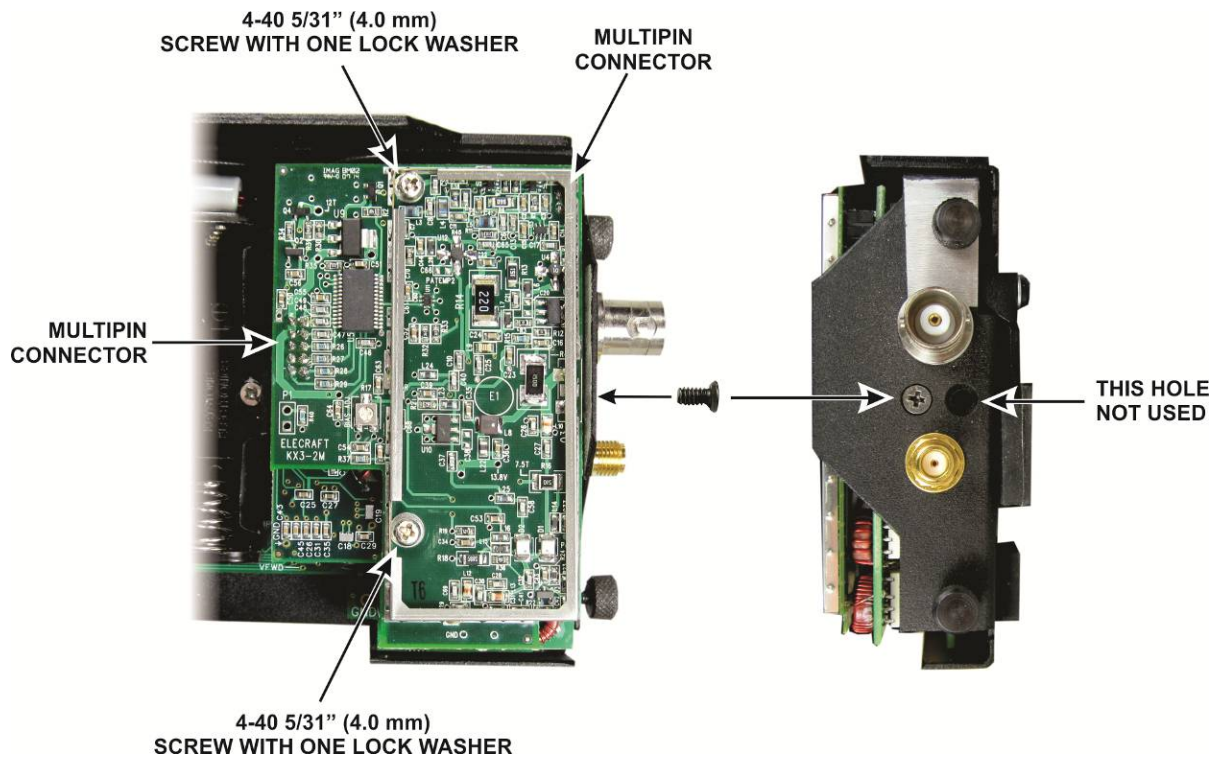

Figure 22. Mounting the KX3-2M or 4M Board in the KX3
- Orient the board as shown in Figure 22.
- Secure the KX3-2M or 4M board with three screws as shown in Figure 22. Use the stainless steel 5/16" (7.9 mm) pan head screws provided, not the black 3/16" (4.8 mm) pan head screws that were originally used to hold the KXAT3 board.